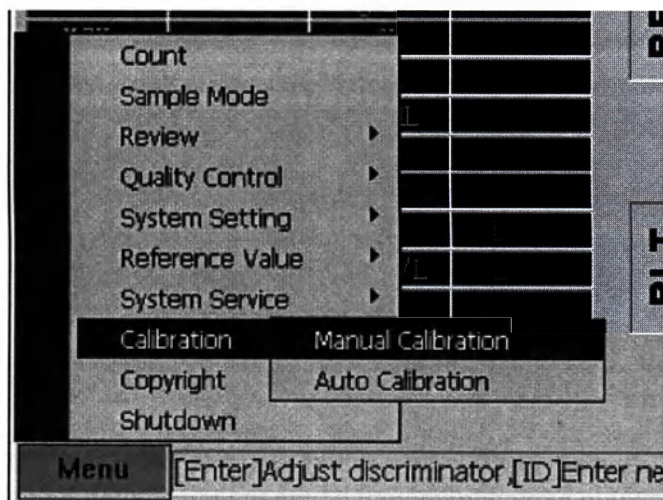

Figure 5-46
5. "Calibration/manual Calibration/Enter" enter the interface of common use reference value, as Figure 5-46, input the new coefficient.